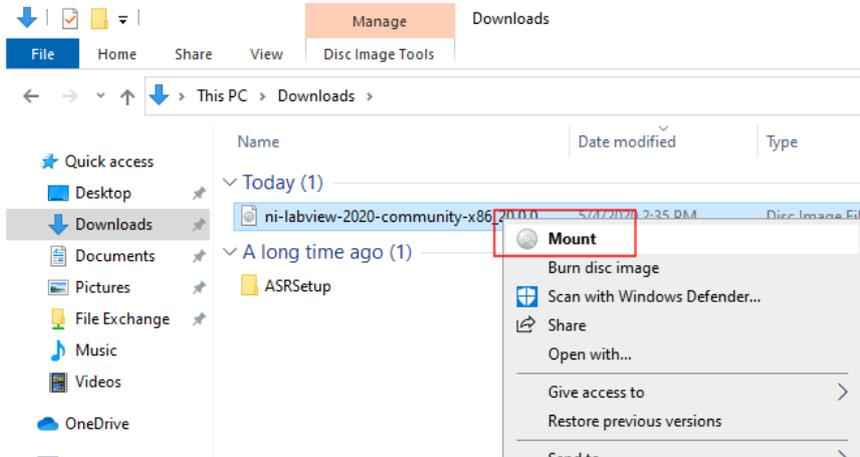

Figure 2-10 Mounting the ISO file
5. When finished, “ni-labview-2020-community-x86-xxx.iso” will be downloaded. Right-click and select “Mount” (Figure 2-10).